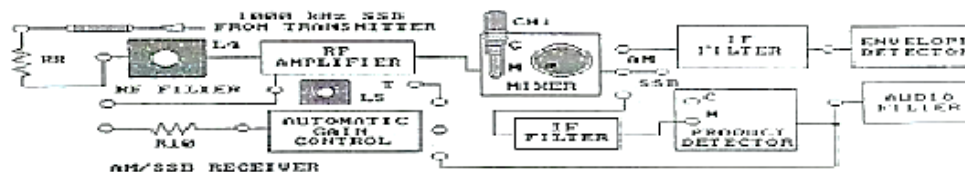

Figure 5-20.
2. Connect the circuit and the oscilloscope channel 1 probe, as shown in Figure 5-20.